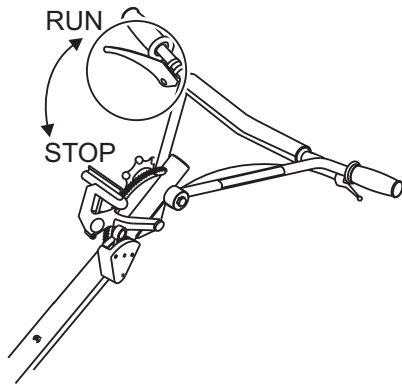

Figure 28. Operator Presence Lever (Run Position)
8. To begin troweling, while holding onto the handlebar grips, grasp and pull in the Operator Presence Lever if so equipped. (Figure 28).